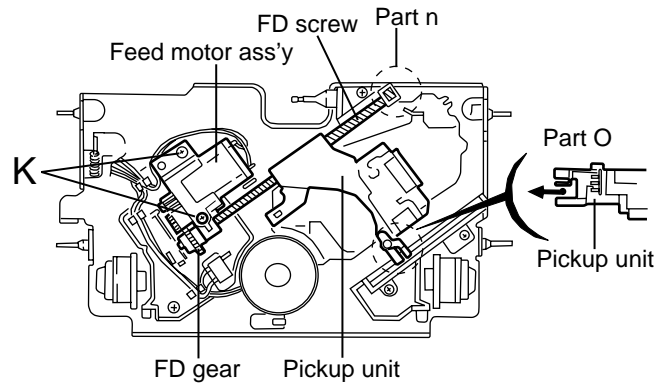

Fig.10
**(See Fig.10)**
**(See Fig.10 and 11)**